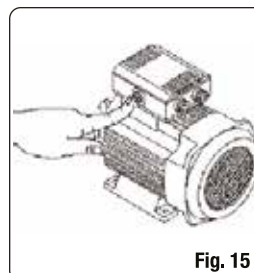

Fig. 15
The single-phase motors of the AB series compressors are provided with a thermal overcurrent protector with manual reset, placed on the outside of the terminal block cover. When this thermal protection is activated, wait a few minutes, then manually reset the thermal switch (fig. 15).
- In the case of the AB series, that the thermal cut-off has not intervened (fig. 15).